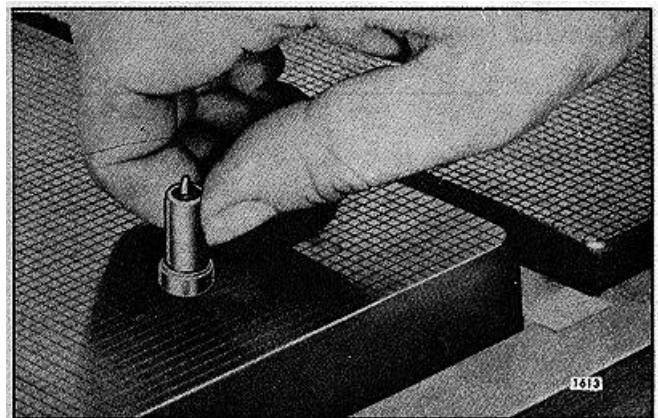

FIG. 28 Lapping Spray Tip on Lapping Blocks J 22090
3. Place the part to be lapped flat on the block as shown in Fig. 28 and, using a figure eight motion, move it back and forth across the block. Do not press on the part, but use just enough pressure to keep the part flat on the block. It is important that the part be kept flat on the block at all times.